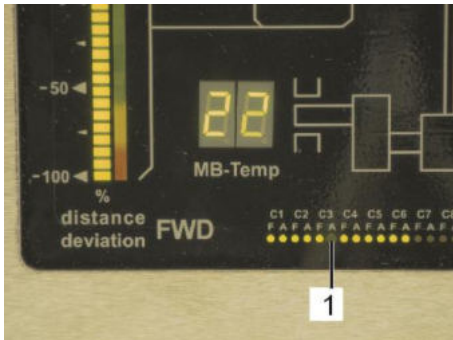

Fig. 111: Distance sensor missing
1. Note: if the number of the distance sensor is not illustrated on the Indication unit (Fig. 111/1 means AFT sensor compartment 3)...